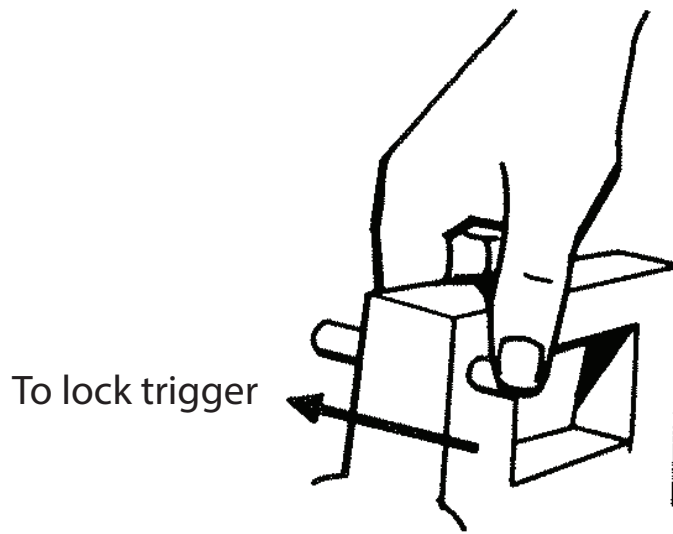

Fig 2
1. Make sure that the trigger is locked by pushing locking button in front of trigger to the right (See Fig 2). This will prevent the accidental pumping of insecticide into the coil.